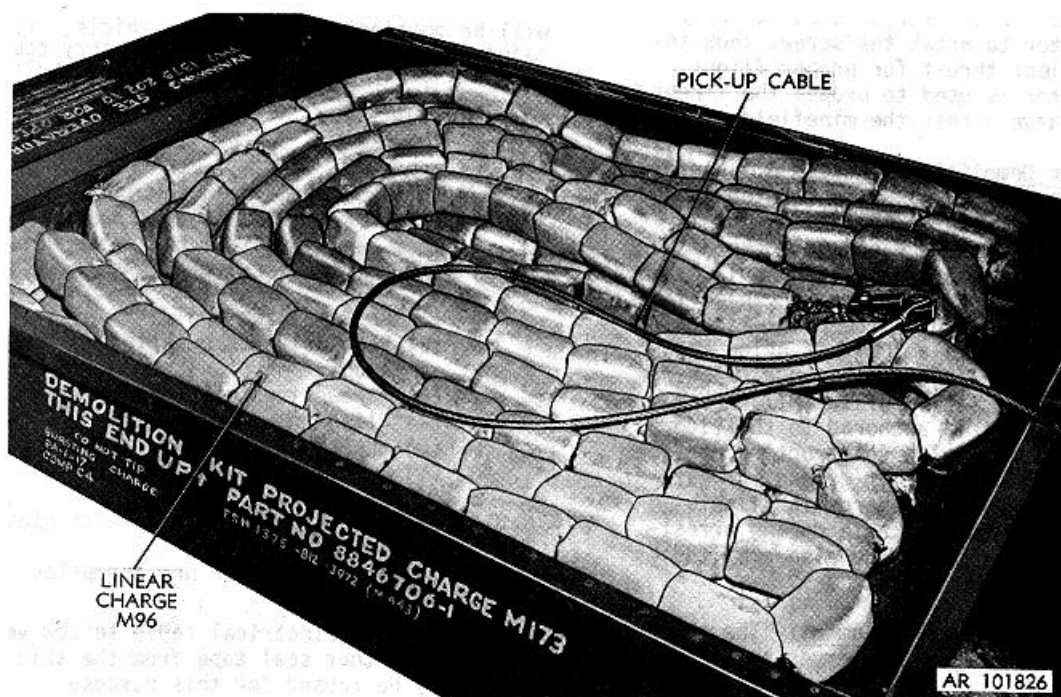

Figure 1-5. Linear demolition charge M96 coiled in center compartment.
c. Linear Demolition Charge M96. Linear demolition charge (fig. 1-5) is located in the center hull compartment. The demolition charge is connected at one end to rocket motor M95 in the front compartment of the hull by means of a 9-1/2-foot steel pickup cable (fig. 1-5). The opposite end of the demolition charge is connected to a 100-foot nylon arresting cable which contains internal electrical cables for initiation of the M1134 fuze. The arresting cable is anchored to the floor of the hull and its nylon construction provides sufficient stretch to permit gradual arrestment of the linear demolition charge in flight. Tension on the arresting cable during arrestment of the demolition charge also arms the fuze (para 1-5d(2)).